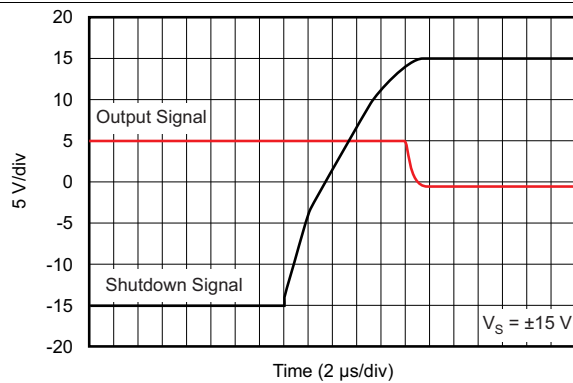

Figure 39. Turnoff Transient
(1) When disabled, the output assumes a high-impedance state.
(2) See Typical Characteristics curves (Figure 39 through Figure 41).
The shutdown (enable) function of the OPA211 is referenced to the positive supply voltage of the operational amplifier. A valid high disables the operational amplifier. A valid high is defined as $(V+) - 0.35$ V of the positive supply applied to the shutdown pin. A valid low is defined as $(V+) - 3$ V below the positive supply pin. For example, with V_{CC} at ± 15 V, the device is enabled at or below 12 V. The device is disabled at or above 14.65 V. If dual or split power supplies are used, care should be taken to ensure the valid high or valid low input signals are properly referred to the positive supply voltage. This pin must be connected to a valid high or low voltage or driven, and not left open-circuit. The enable and disable times are provided in the Typical Characteristics section (see Figure 39 through Figure 41). When disabled, the output assumes a high-impedance state.